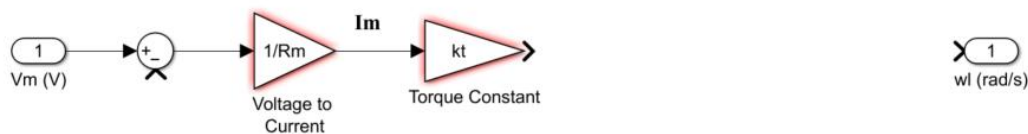

Figure 2: Incomplete Qube-Servo 3 Model.
3. Implement the partial solution shown in Figure 2. While modeling you'll need a few **Gain** blocks, a **Subtract** block and an **Integrator** block (to go from acceleration to speed). The subsequent steps will highlight important components in your model.
- a. It may help to write a short MATLAB script that sets the various system parameters in the workspace so that they can be used by the Simulink model. For example, Figure 2 uses R_m for motor resistance and k_t for the current-torque constant as shown below: